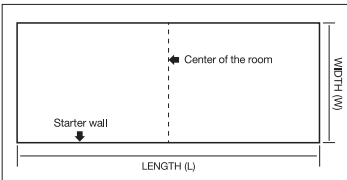

Figure 6
- Find the center of the starting wall and center of the opposite wall. Snap a chalk line down the center of the room connecting these two points (Control line) (Figure 6).